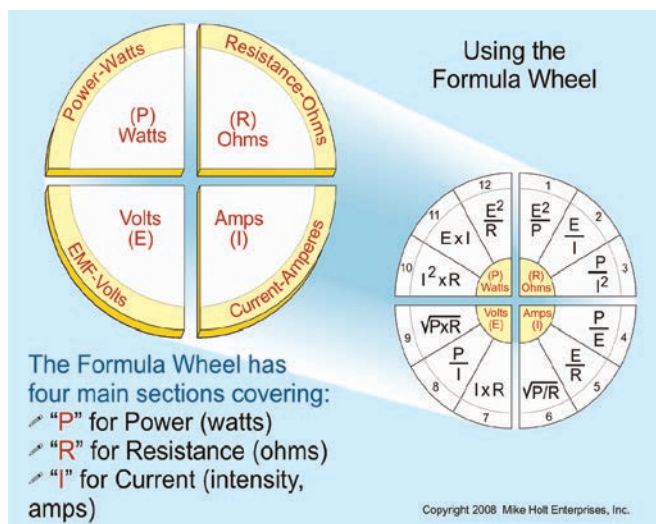

Figure 1–25
The formula wheel is divided into four sections with three formulas in each section. **Figure 1–25**. When working the formula wheel, the key to calculating the correct answer is to follow these steps:
**Question:** The total resistance of two 12 AWG conductors, 75 ft long is 0.30 ohms, and the current through the circuit is 16A. What is the power loss of the conductors? **Figure 1–26**